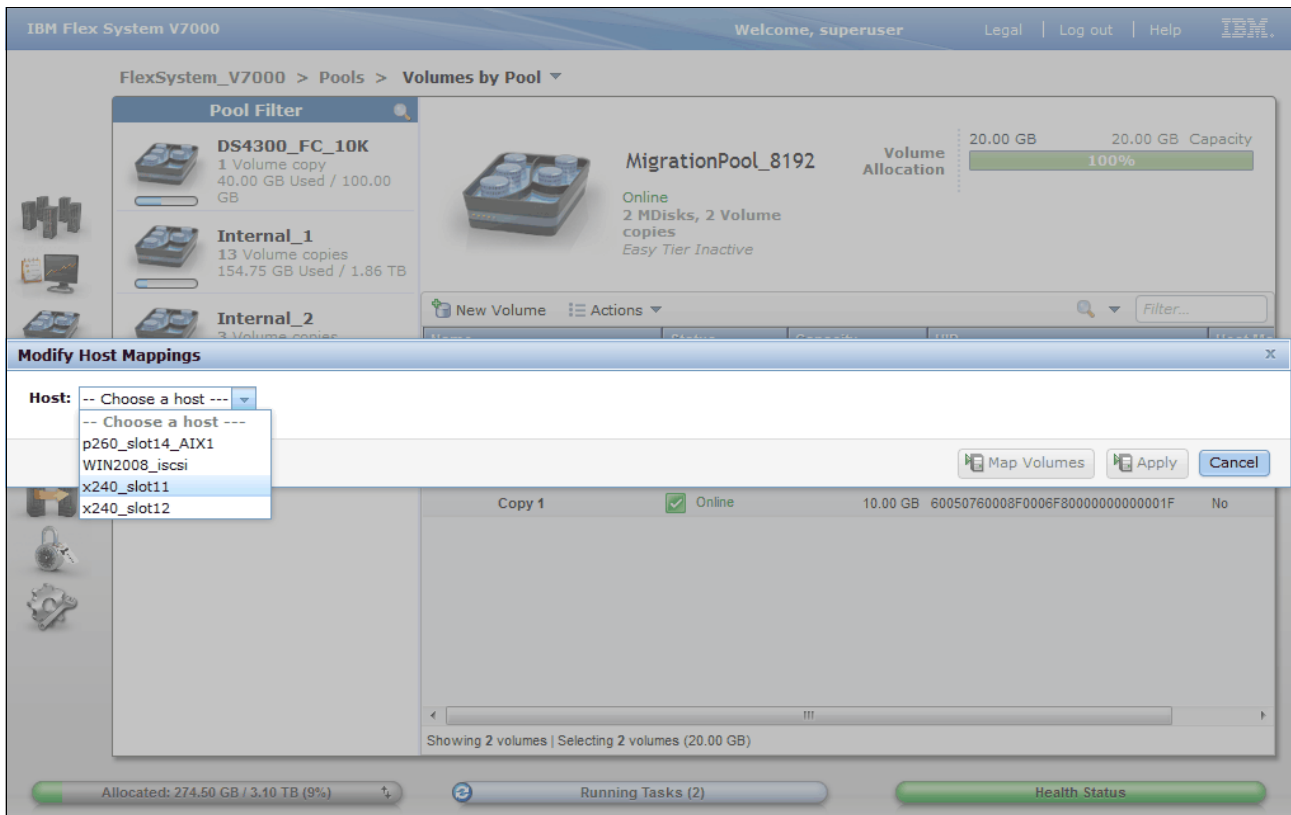

Figure 7-29 Modify Host Mappings - Choose a host
- Figure 7-29 shows the next step in the mapping process. The wizard will display all the hosts that are currently configured on IBM Flex System V7000 Storage Node and allow us to select the appropriate host we want to map the volume.